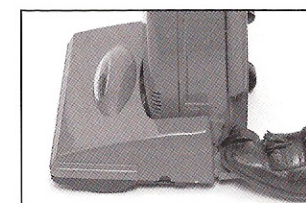

Fig. 7
The handle can be set to one of three positions: Upright, Middle or Low. To release the handle, step on the pedal at the left rear corner of the vacuum cleaner [Fig. 7].
1. Upright Position: Handle locks in this position for vacuum cleaner storage [Fig. 7]. The handle should always be in the upright position when cleaning tools are used.